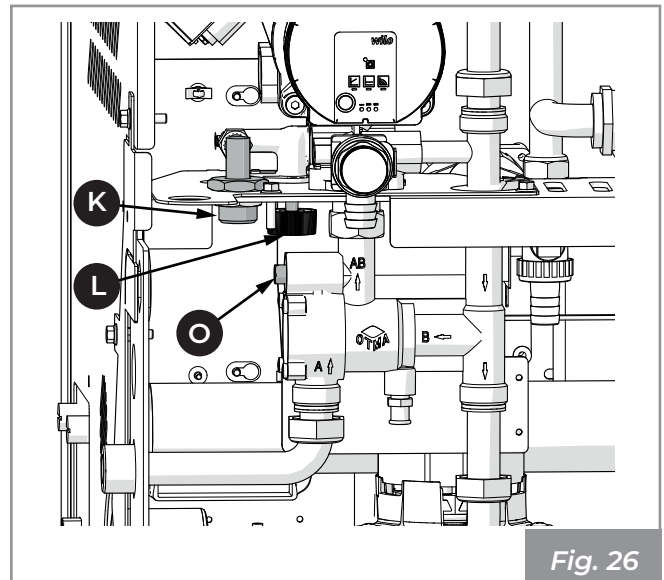
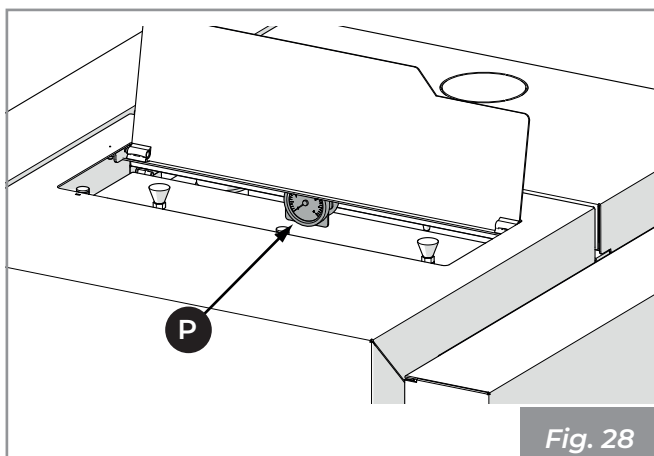

Fig. 26
Fig. 28
Connect a water pipe coming from the aqueduct to the filling fitting (K), open the relief valve (B) (Fig. 23), open the filling tap (L), thus allowing the water to flow until the appliance is completely full (Fig. 26). Close the relief valve and wait for the minimum operating pressure (1 bar) to be reached, which can be checked from the pressure gauge (P) (Fig. 28).
- Open the relief valve (B) (Fig. 23), open the bypass tap in the anti-condensation valve (O), thus making the water flow from the system until the boiler is completely filled (Fig. 26). Close the relief valve and wait for the minimum operating pressure (1 bar) to be reached, which can be checked from the pressure gauge (P) (Fig. 28).
- 2) Connect a hose to the system drain (M), open the relief valve, open the drain tap (N), thus causing the water to flow out until the appliance is completely empty. Close the relief valve and tap (N) (Fig. 26).